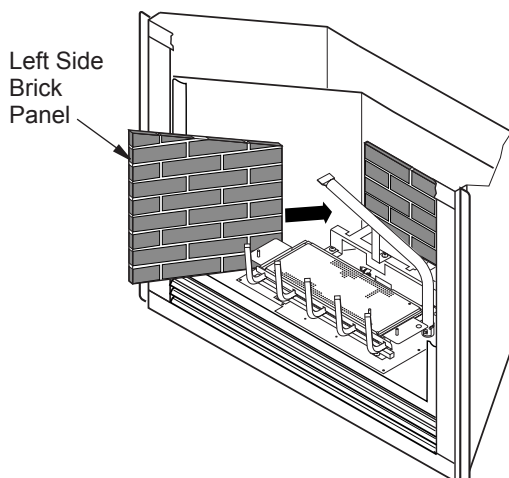

Figure 43 - Installing Side Brick Panel
6. Install left side brick panel by sliding it between burner assembly and side of fireplace (see Figure 43).